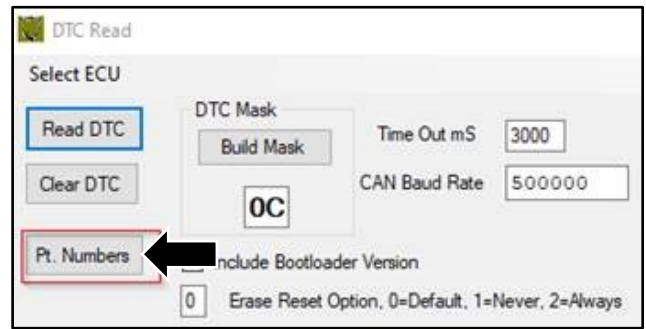

Figure 3
7. Select "Pt. Numbers" (refer to Figure 3).